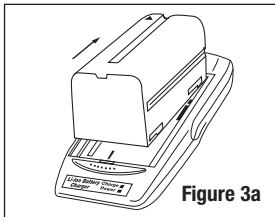

Figure 3a
Align the contacts on your battery with the appropriate contacts on the charger. Follow the guides on your battery and the charger to slide the battery into place in the charging bay (E). For some battery models, you will either press the battery down and then slide it up (away from the indicator light panel), or you will slide the battery up and then press it down (see figures 3a and 3b). Either way, the battery should slide easily into place - if it does not, do not force the battery into place; simply realign the guides and try again.